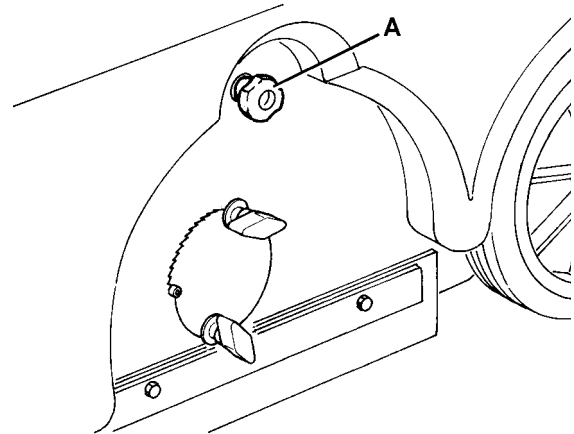
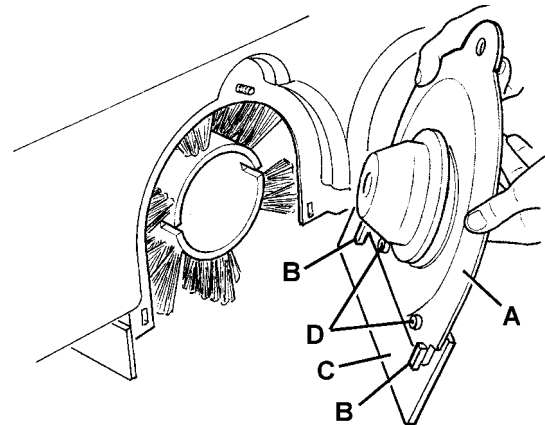

Figure 16
Figure 17
5. Open the hood (7), loosen the knob (A, Fig. 16) and remove the main broom left cover (A, Fig. 17), by pressing it downwards to disengage the fasteners (B).
6. Adjust the height of the left skirt (C, Fig. 17) by using the slots (D).